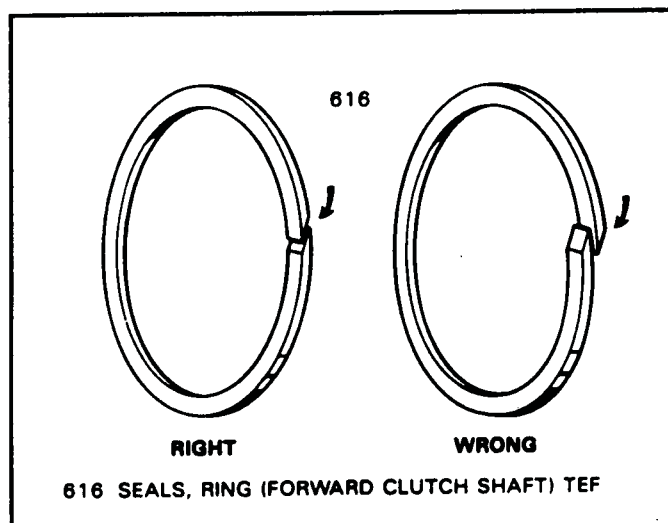

Figure 95
36. Install the two scarf cut sealing rings onto the shaft of the forward clutch housing and ensure the cut ends are assembled properly, as shown in Figure 95.